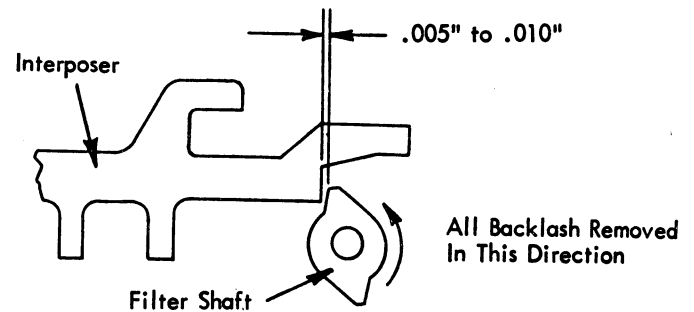

FIGURE 2. Filter Shaft Adjustment
1. **Filter Shaft** - With the cycle shaft in the rest position, the working surface of the filter shaft should clear a depressed interposer by .005" to .010" (Fig. 2).